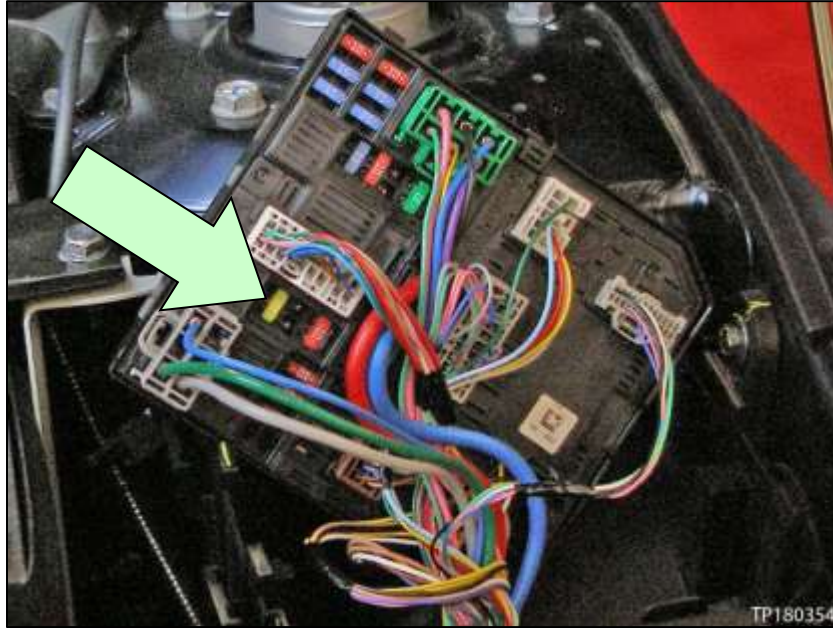

Figure 89
58. Install the # F11 20 amp fuel pump fuse (see arrow in Figure 89).